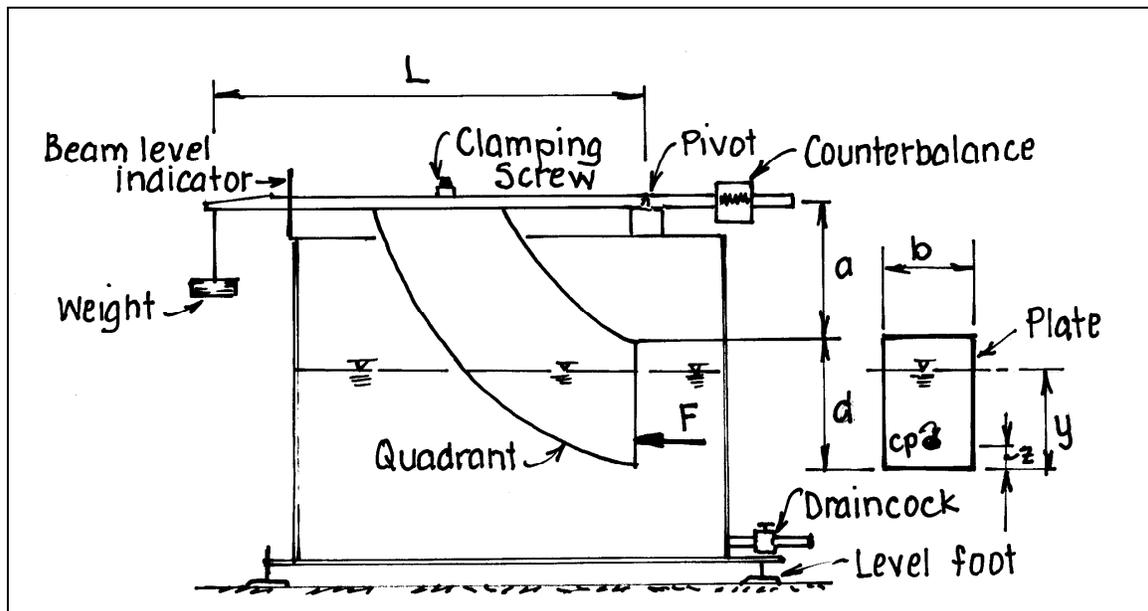

Figure 1-1 Hydrostatic Pressure Apparatus
- Measure  $a$ ,  $L$ ,  $d$ ,  $b$  as shown in Figure 1-1.